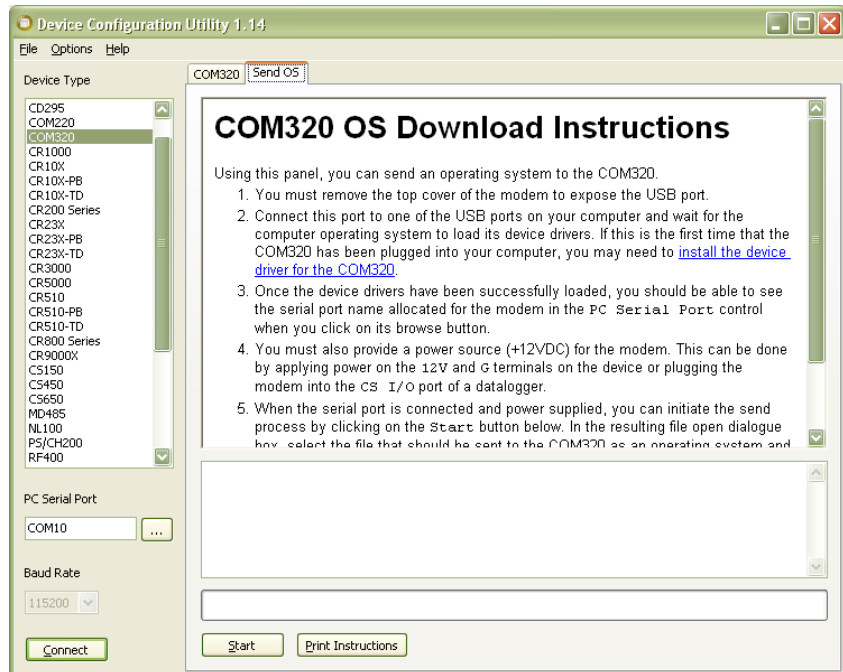

FIGURE B-1. Send OS Screen in Device Configuration Utility
- 5) Select COM320 from the *Device Configuration Utility* menu and select the *Send OS* tab at the top (FIGURE B-1).